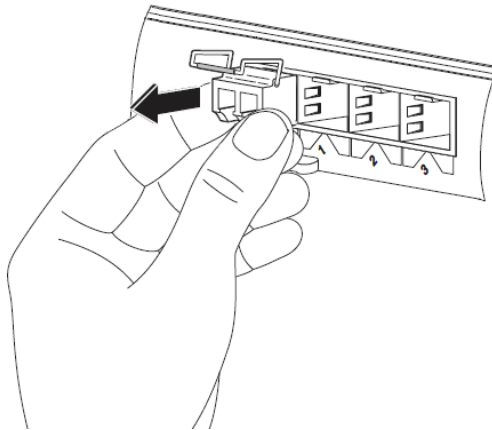

Figure 8: Removing an SFP+ Module from the port
4. Grasp the module between your thumb and index finger and carefully remove it from the port, as shown in Figure 8.